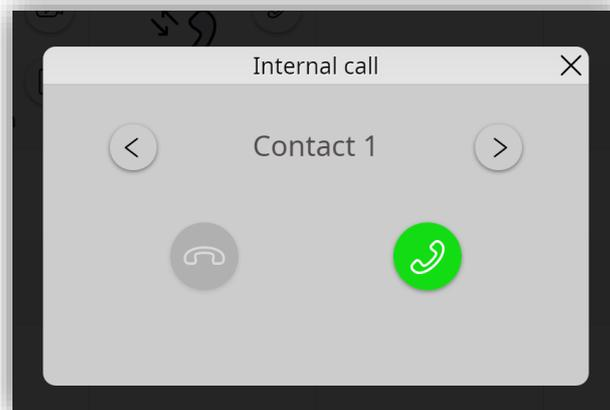

Figure 116. Contacts list
**Note:** The interface in Figure 116 will also be displayed if the **Import contacts** “from web” option (see section 2.1.17.2) is not enabled and the contact list is configured in ETS.